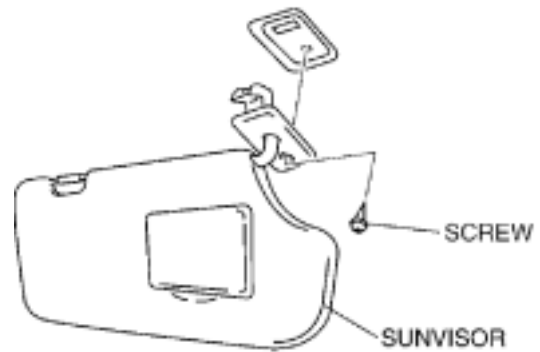

FIGURE 13
- 2.) UNHOOK AND REMOVE THE SUNVISOR. (SEE FIGURE 13)